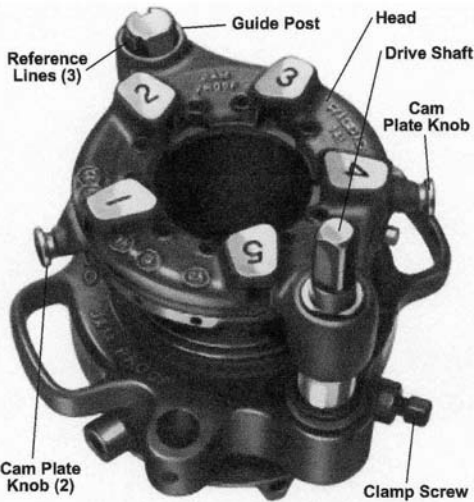

Figure 16 – No. 141 Geared Threader Showing Pinion Sleeve and Guide Post Reference Lines
Grasp workholder and turn square end of drive shaft or turn gear case by hand to respective reference lines on guide post (Figure 16).
4. Turn guide post until straight slot faces inward for straight thread. For tapered threads set tapered slot inward. Figure 16 shows guide post set to cut tapered thread.
7. 141 and 161 – Using the socket wrench, loosen clamp screw (Figure 16), turn workholder to OPEN position and remove pipe.